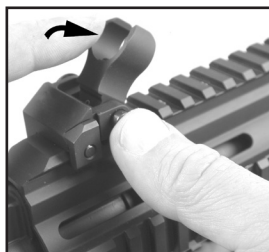

Fig. 8 – Folding (lowering)
2. Apply one drop of tread locking compound to the exposed threads of the clamping screw. Replace the clamping plate and tighten the clamping screw while pushing sight forward against the cross-slot (Fig. 7). To raise the sight, grasp and pull up until the sights locks in the upright position. To fold the sight, depress the button on the left side of the base and fold down. (Fig. 8)